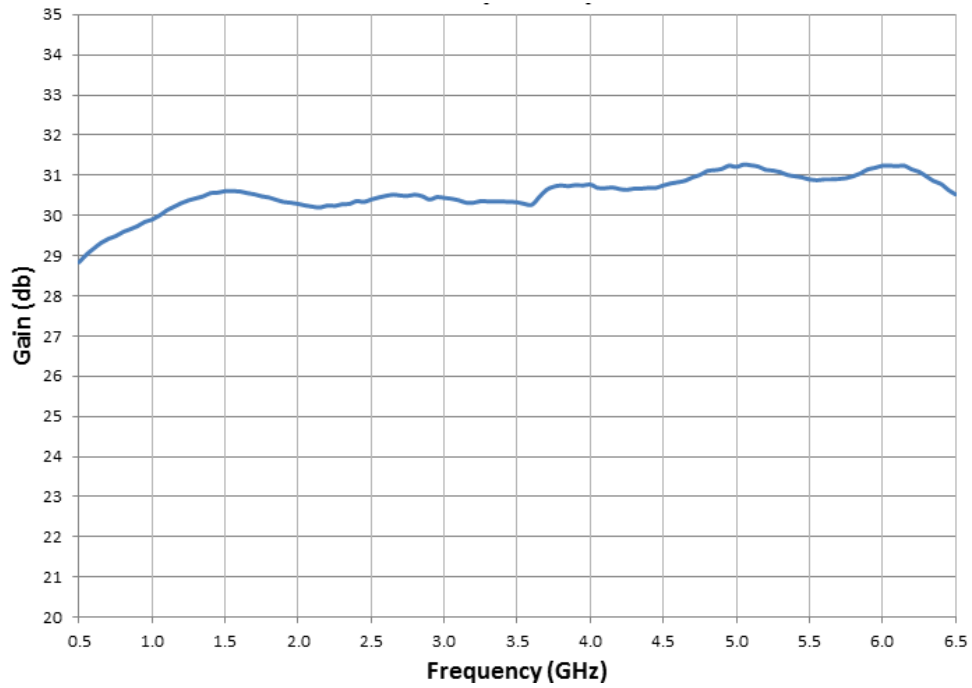

Figure 4-4. Typical A1 Pre-Amp Response
4. If the A2 and A3 RF stages are normal, check the response of the A1 Pre-Amplifier. The gain response should be approximately 28–32 dB. See Figure 4-4 for typical A1 Pre-Amp response.